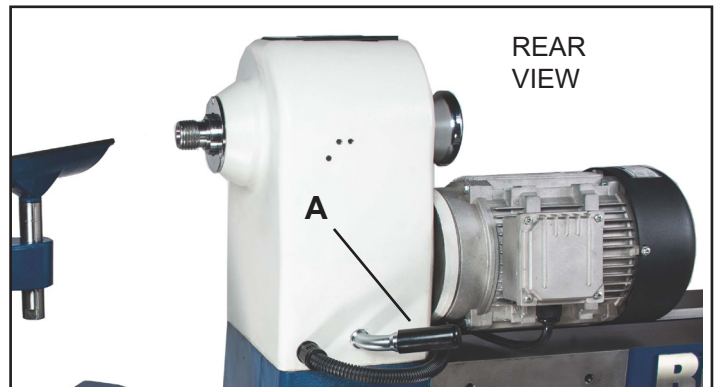

FIG. 14
D. HEADSTOCK LOCKING HANDLE: (FIG. 14, A) The rear lever locks the headstock head in position on the lathe bed. To rotate the headstock on the bed, unlock lever handle, then re-tighten handle when the headstock is repositioned.